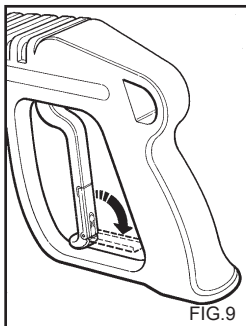

FIG.9
- When the water cleaner is not used, close the safety device on the handle (fig. 9).